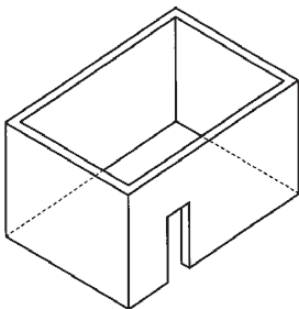

Figure 1 - Enclosure with walls on all sides
- An enclosure with walls on all sides, but at least one permanent opening at ground level and no overhead cover. See Figure 1.